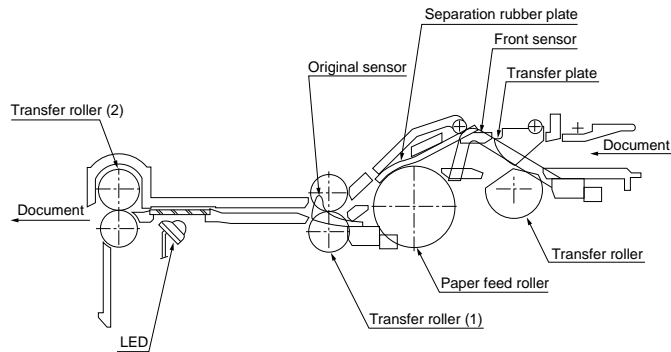

Fig. 1
- 1) As shown in Fig.1, the document set in the hopper (the front sensor is on) is fed with the pay-out roller and paper feed roller which rotate together with the pulse motor.